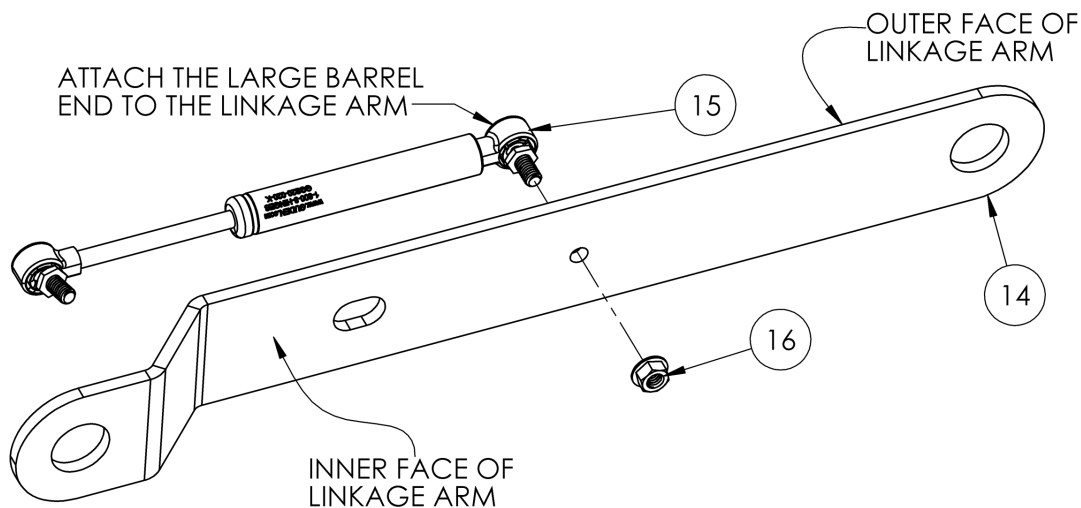

Figure 5: Attaching Gas Shocks to Linkage Arms
1. Using the 7/16" wrench and the 1/2" wrench, attach the large barrel end of one gas shock (15) to the outer face of each linkage arm (14) with one flange nut (16) (**Figure 5**).